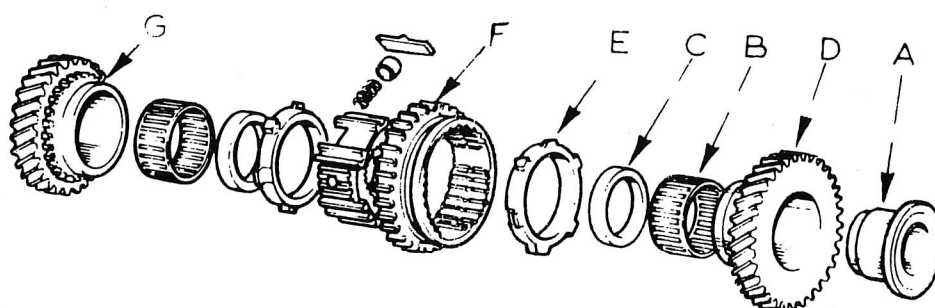

Fig. 35. 1st AND 2nd. GEAR ASSEMBLIES
3. On the other end of the shaft, fit the needle roller bearing (B, Fig. 35), 2nd. speed gear (G, Fig. 35), spacer (C, Fig. 35), baulk ring (E, Fig. 35), 1st./2nd. synchroniser assembly (F, Fig. 35), second spacer, second needle roller bearing, second baulk ring, 1st gear (D, Fig. 35) with its selective hub (A, Fig. 35).